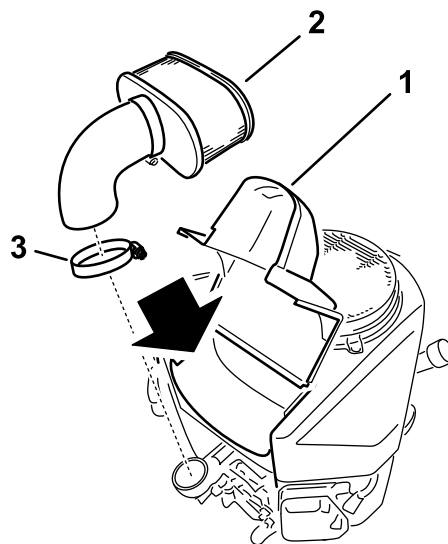

Figure 31
4. Loosen the hose clamp and remove the paper element (Figure 31).